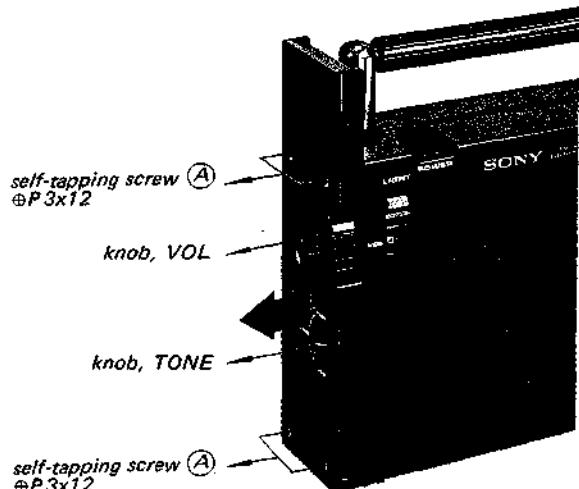

Fig. 2-1.
1. Remove the four screws labeled **A** in Fig. 2-1.
2. Pull off the left side cover along with the VOL knob and TONE knob as shown in Fig. 2-1.